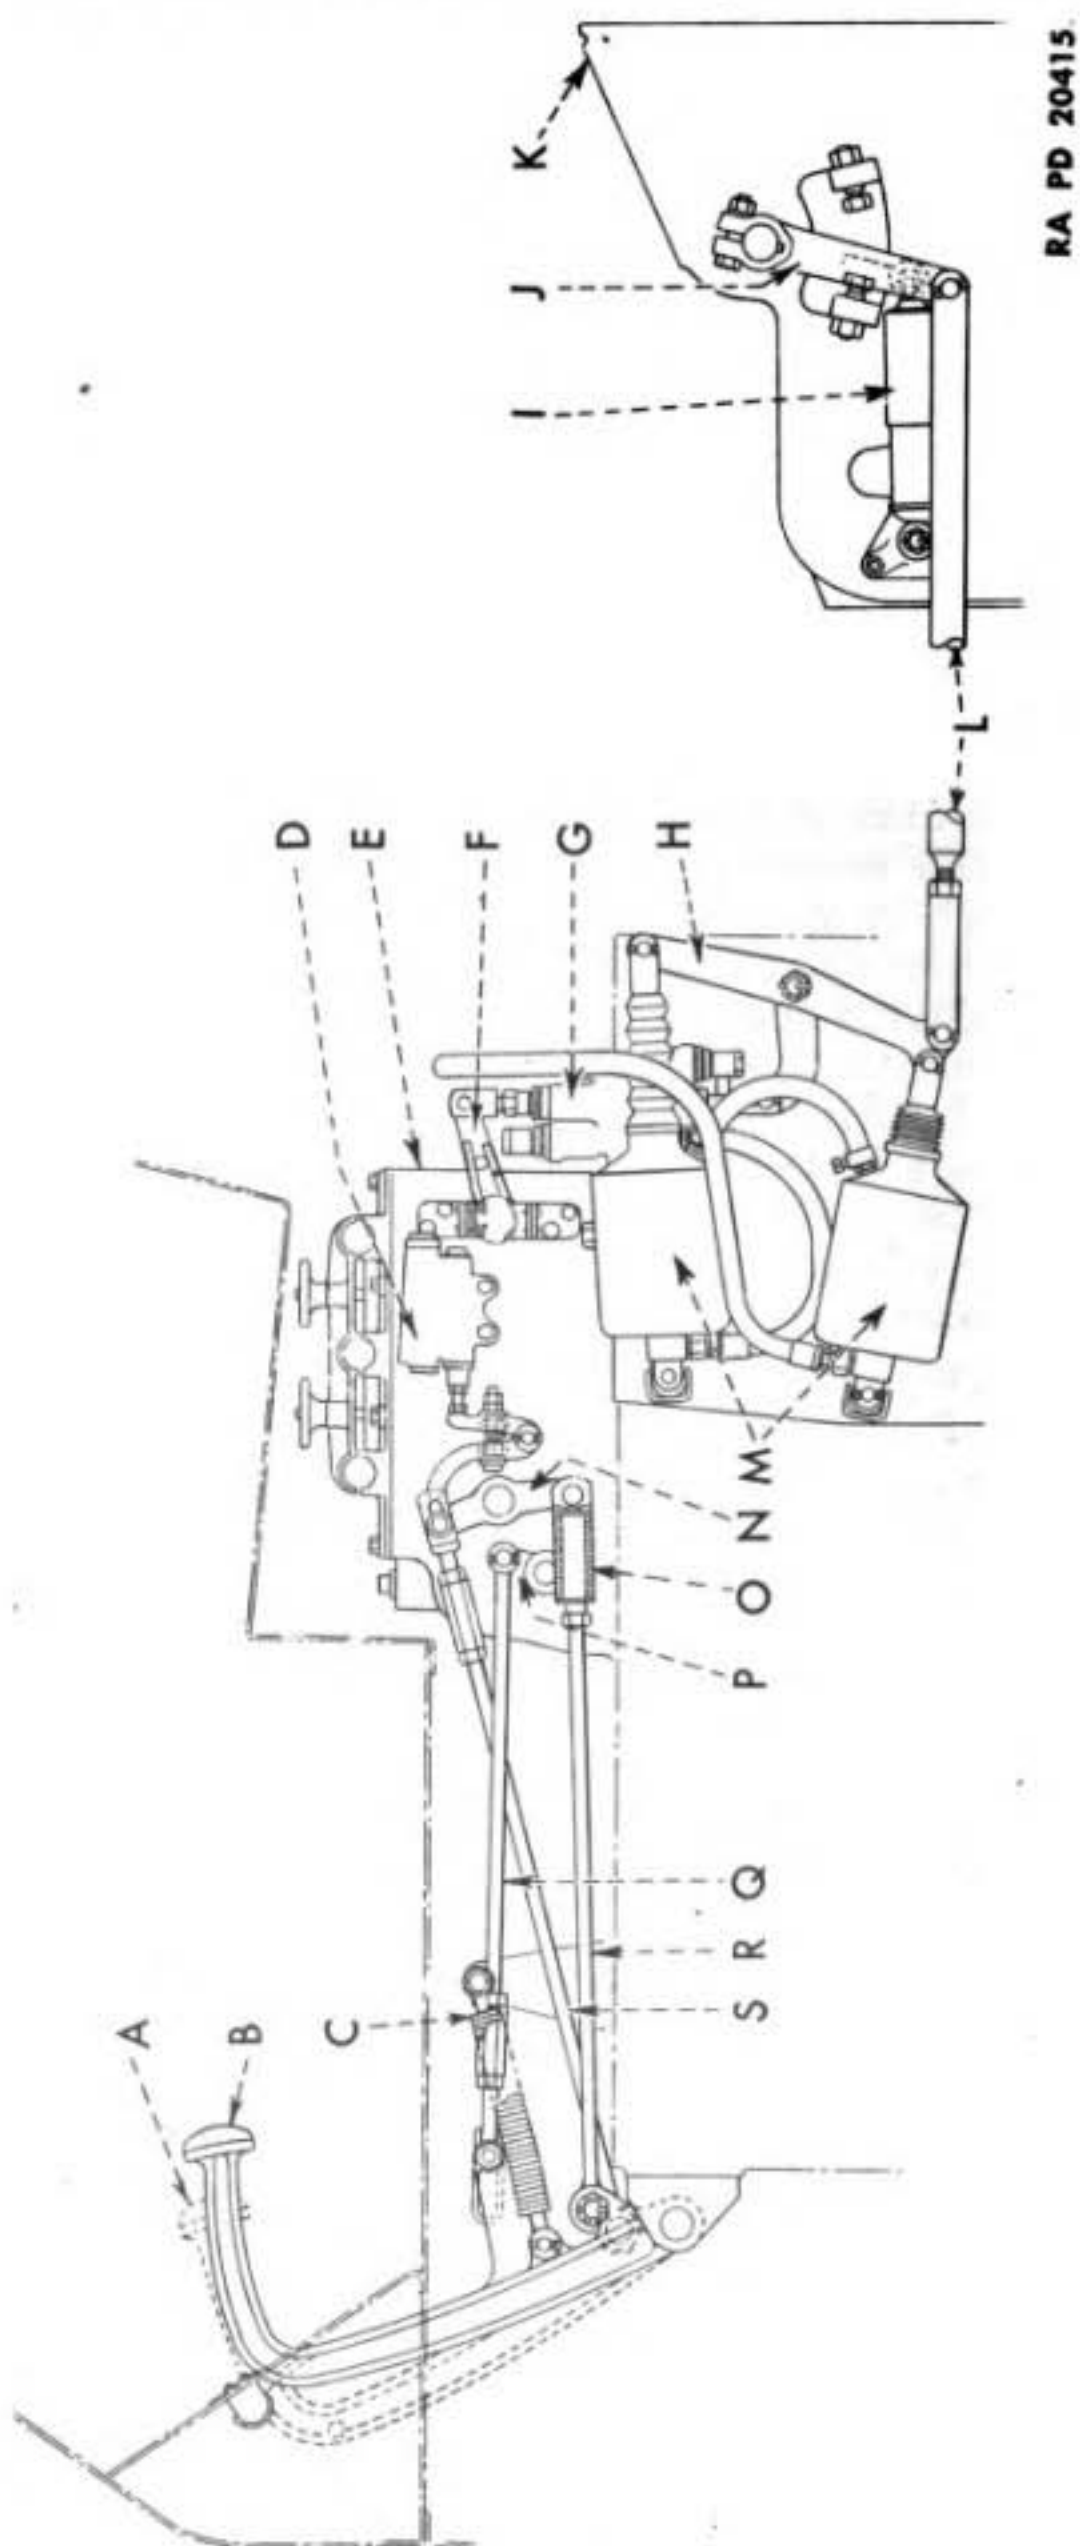

Figure 157 — Engine Clutch Controls — Clutch Engaged in High Range
96. DESCRIPTION (fig. 157).
97. OPERATION (fig. 157).
a. A clutch shifting lever (J), located at the side of the clutch housing (K), controls the engagement or disengagement of the two-way engine clutch. When the lever is in a vertical position, the clutch is disengaged. When it is in a forward position, the clutch is engaged in high range. When it is in a rear position, the clutch is engaged in low range. The movement of the clutch shifting lever is controlled by the operator through the clutch pedals and controls. With normal air pressure (80 to 100 pounds), the operator uses only the service clutch pedal (B) to operate the clutch, and this is referred to as "normal clutch operation" (see subparagraph b). With no air pressure, the operator uses both the service clutch pedal (B) and emergency clutch pedal (A) to operate the clutch manually, and this is referred to as "emergency clutch operation" (subpar. c below). Following is a detailed description of what takes place in the clutch controls when the pedals are moved through
Legend for Figure 157 — Engine Clutch Controls — Clutch Engaged in High Range
(1) **CLUTCH ENGAGED.** When the service clutch pedal is released, all the way up, the engine clutch is engaged in either high or low-range. Figures 157 and 158 show the clutch controls in high-range. Note in figure 157 that the clutch shifting lever (J), which is located at the side of the clutch housing, is in the high-range position against the forward stop screw.
(2) **DISENGAGE CLUTCH** (figs. 157 and 158). When the service clutch pedal (AA) is depressed to neutral, approximately $\frac{2}{3}$ of the way down, it moves the service clutch pedal rod (ZZ), and also the lower end of the clutch selector range lever (VV), forward. The clutch selector range lever shaft is splined to the inner-range lever (JJ), which is located inside the selector housing. This inner-range lever (JJ) has an upper arm, which is connected to the high-range lever (MM) by a rod with yoke (LL), and a lower arm, which is connected to the low-range lever (SS) by a rod with yoke (UU). Forward movement of the lower end of the clutch selector range lever (VV) causes the high-range lever (MM) to move down, and the low-range lever (SS) to move up. This movement, up or down, is transferred to the intermediate lever (OO) by a sliding shifting lever pin (PP). When the pin engages a hole provided in the high-range lever (MM), the intermediate lever (OO) moves with the high-range lever. When the pin engages the low-range lever (SS), the intermediate lever (OO) moves with the low-range lever. Since we are disengaging the clutch from high-range, the shifter lever pin (PP) is engaged into the high-range lever (MM), and the intermediate lever (OO) moves down with the high-range lever until it strikes a stop on the low-range lever (SS). In this position the holes in both the high and low-range levers are in line with the shifting lever pin, and the pin could be moved endwise to engage either lever if it were free to do so. The downward movement of the intermediate lever (OO) is transferred through the valve lever link (TT) and the inner valve lever (RR) to the clutch shifting valve lever (QQ), causing the latter to move down to a horizontal position. The clutch shifting valve lever (QQ) is linked to the power cylinder lever (H) by a shifting valve (G). This is a follow-up type of valve that controls the flow of air pressure to the power cylinders (M). These power cylinders actuate the power cylinder lever (H) in proportion to the movement of the clutch shifting valve lever (F). The downward movement of the clutch shifting valve lever (F) causes the lower power cylinder to push the lower end of the power cylinder lever (H) toward the rear. It also moves the clutch shifting lever rod (L) and the clutch shifting lever (J) toward the rear until the clutch shifting lever is positioned midway between the two stop screws. This disengages the clutch.
(5) **ENGAGE CLUTCH** (figs. 157 and 158). As the service clutch pedal (AA) is released from neutral, the lower end of the clutch selector range lever (VV) moves back, and the low-range lever (SS) moves down, carrying with it the intermediate lever (OO). This movement is transferred through the valve lever link (TT), inner valve lever (RR), clutch shifting valve lever (QQ), clutch shifting valve (G), power cylinder lever (H), and clutch shifting lever rod (L), to the clutch shifting lever (J), causing it to move to the rear position and engage the clutch in low-range. This completes the shifting of the engine clutch from high-range to low-range. A snubber (I) is attached between the clutch shifting lever (J) and the anchor mounted on the side of the clutch housing (K). Its purpose is to suppress the forces set up by the power cylinders which operate the clutch, and thus protect the clutch mechanism and two stop screws from unnecessary shock. The stop screws limit the travel of the clutch shifting lever (J).
(1) **CLUTCH ENGAGED.** When the engine clutch is engaged in high-range, the controls are in the position shown in figures 157 and 158.
(2) **DISENGAGE CLUTCH** (figs. 157 and 158). The operation of disengaging the engine clutch without the aid of air pressure
(3) **ENGAGE CLUTCH** (figs. 157 and 158). The emergency clutch pedal (A) is connected to the upper end of the clutch selector range lever (N) by the emergency clutch pedal rod (S). Movement of the emergency clutch pedal (A) to the toeboard causes the upper end of the range lever (N) to move forward. This movement is transferred (through the inner range lever (JJ) and the rod with yoke (UU) to the low-range lever (SS), which moves down. The intermediate lever (OO) also moves down with the low-range lever (SS), due to the engagement of the shifting lever pin (PP). The downward movement of the intermediate lever (OO) is transferred, through the valve lever link (TT), inner valve lever (RR), clutch shifting valve lever (QQ), clutch shifting valve (G), power cylinder lever